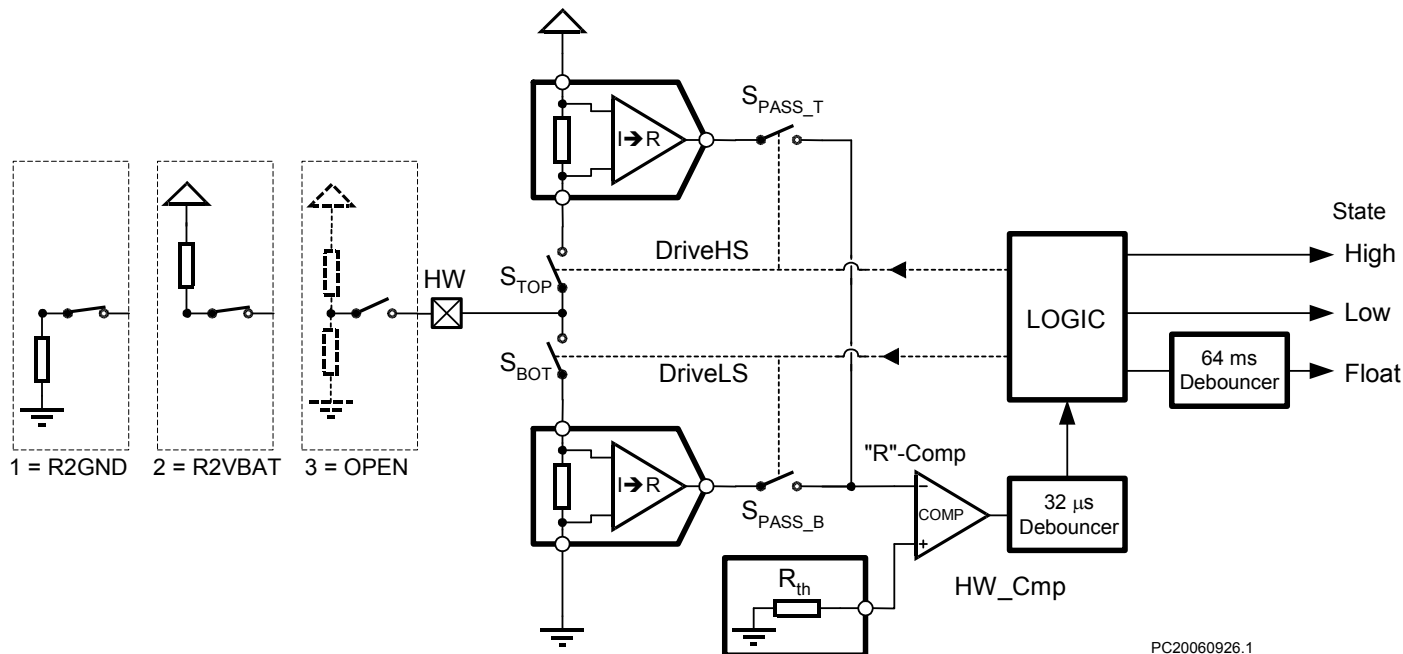

Figure 10: Simplified Schematic Diagram of the HW Comparator
In Figure 10 a simplified schematic diagram is shown of the HW comparator circuit.
- Three cases can be distinguished (see also Figure 10):